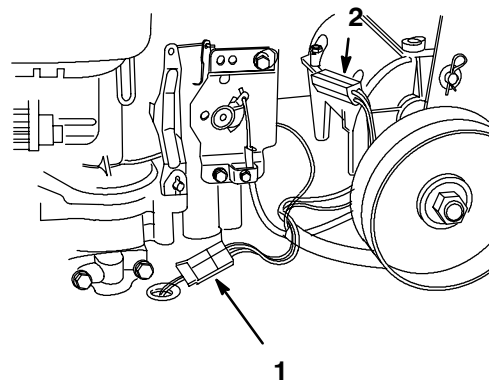

Figure 7
1. Secure clutch and engine in-line wire connectors (Fig. 7).
2. Secure remaining wires to one of three holes in frame, at rear of engine, with self-tapping screw and star washer (Fig. 7).
3. Secure wire harness to fuel line (above fuel filter) with cable tie (Fig. 7).
4. Secure wire harness and throttle to upper handle with cable tie (Fig. 7)